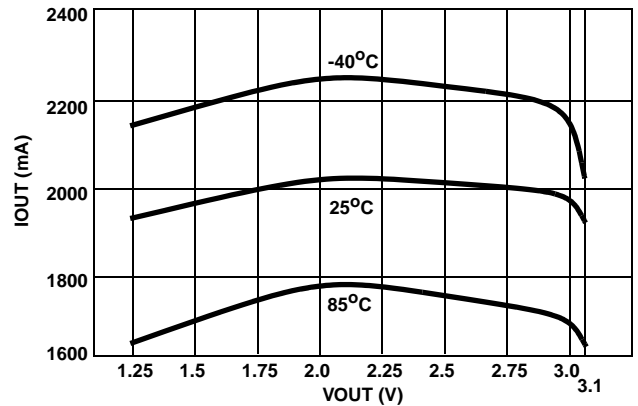

FIGURE 5. CURRENT REGULATION vs VOUT (VIN = 3.3V)
The ISL6121 has integrated current sensing on the power MOSFET that allows for rapid control of OC events. Once an OC is detected the ISL6121 goes into its Current Regulation (CR) control mode. The ISL6121 CR level is set to a nominal 2A. This current regulation is ±20% over the full operating temperature and voltage bias range. See Figures 5 and 6 for illustrative curves.